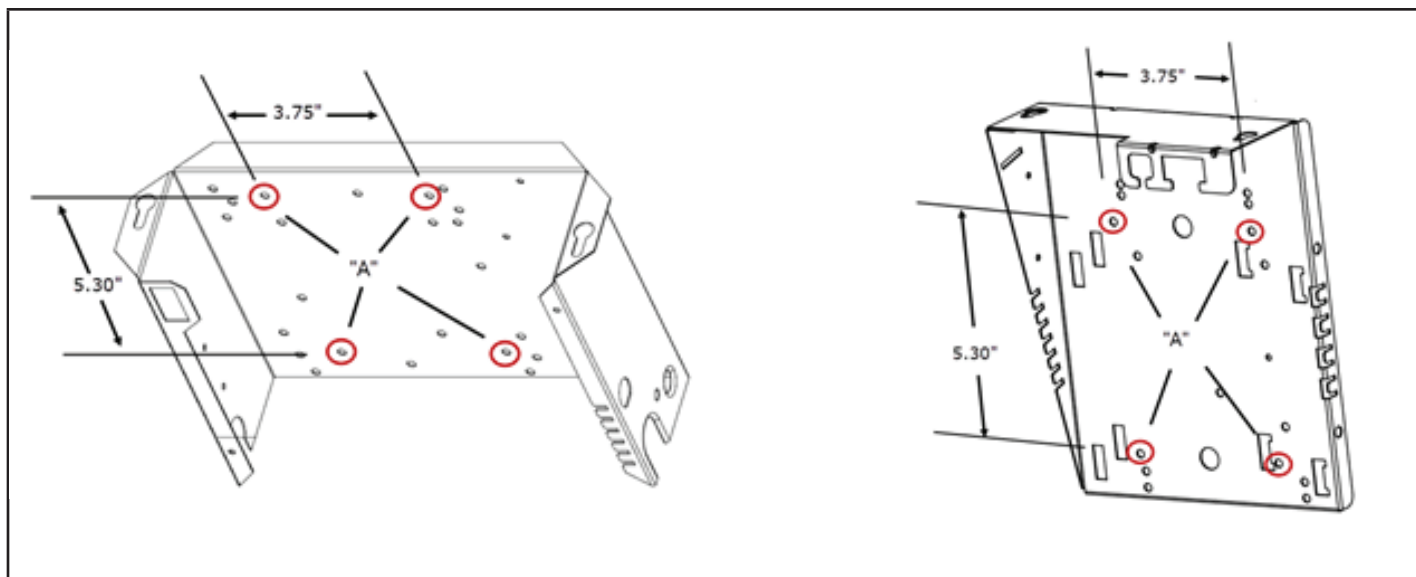

FIGURE 1
- 4 - Position the provided replacement ignition control over the holes marked "A" in Figure 1 for the appropriate control box design. Snap the replacement ignition control into place in the control box. 80UHG – the control mounting panel will be rotated 90° from either position shown in Figure 1.
Position the provided replacement ignition control over the holes marked "A" in Figure 1 for the appropriate control box design. Snap the replacement ignition control into place in the control box.
**80UHG** – the control mounting panel will be rotated 90° from either position shown in Figure 1.